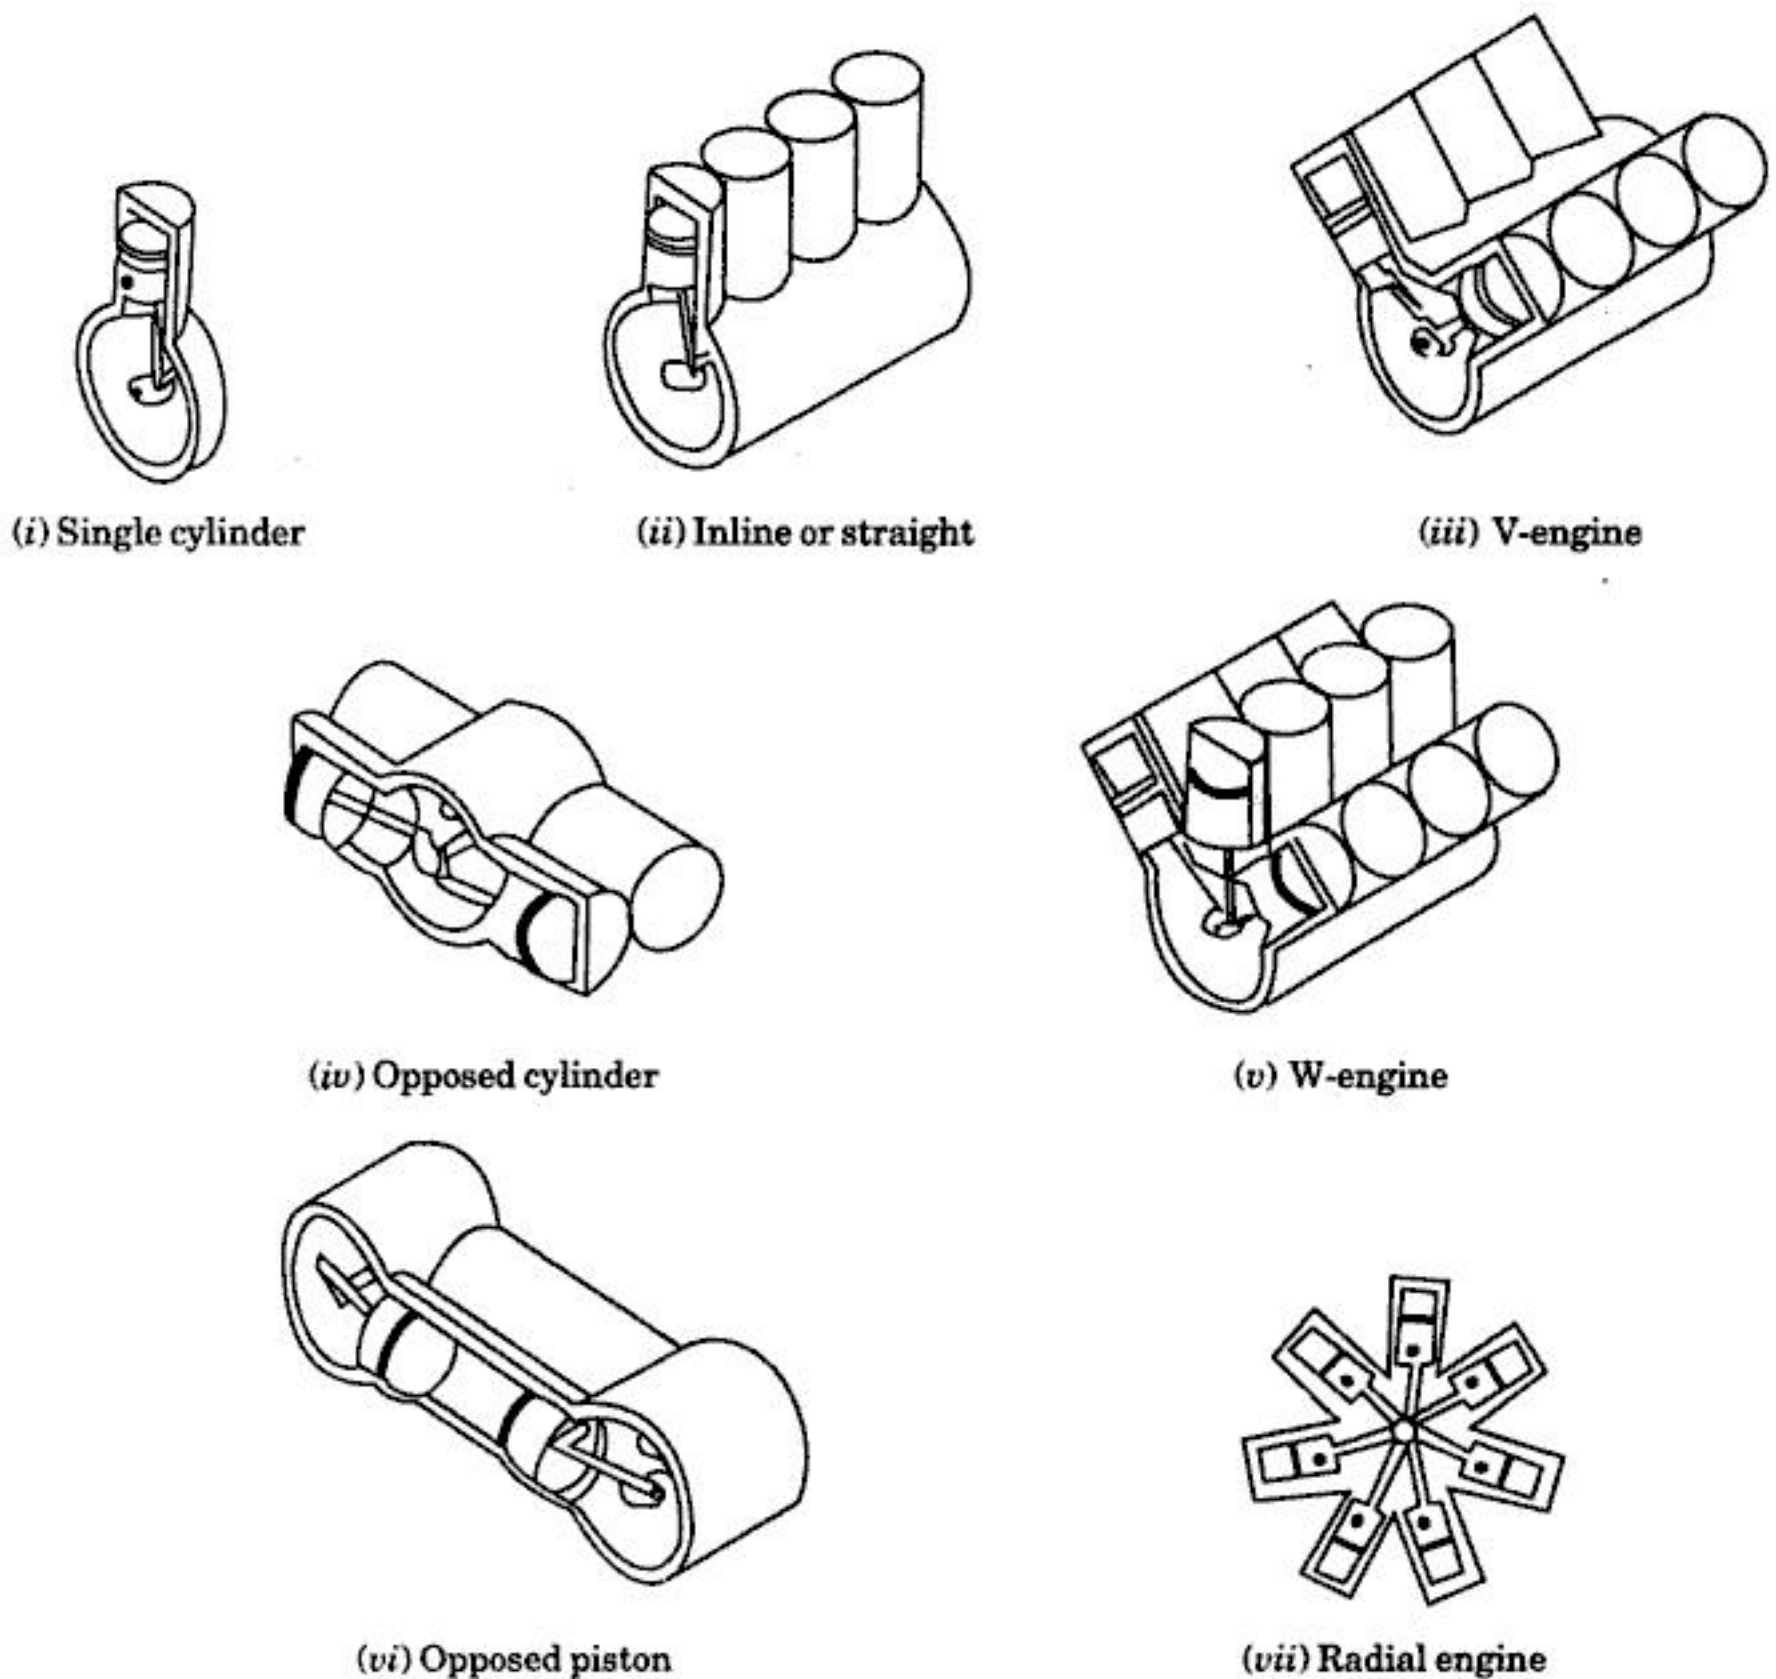

Fig. 2.2. Engine classification by cylinder arrangement.
3. According to arrangement of cylinder : Refer Fig. 2.2.